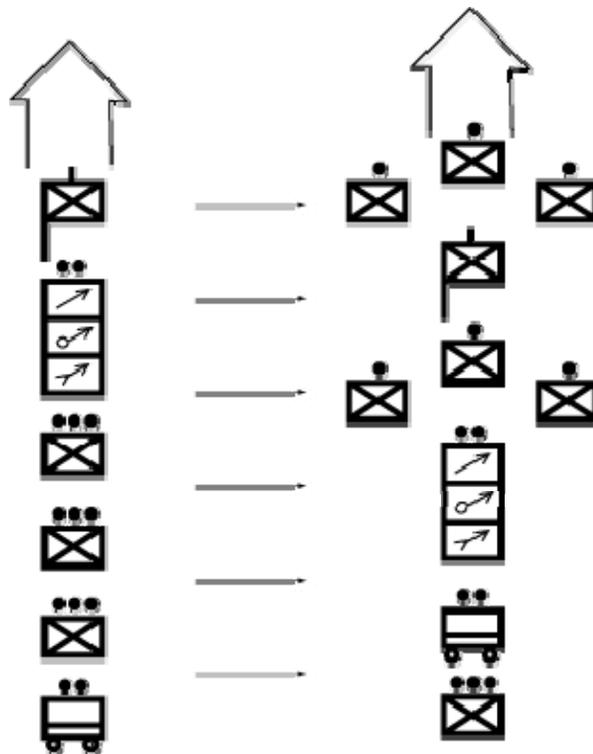

Figure 1. Transition from Route Column to Tactical Column.
- Rifle Platoons move into positions shown in *Figure 1*.